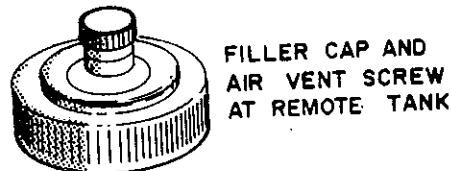

Figure 5. Remote fuel tank cap has screw type air vent.
- (3) Before starting, be sure that fuel tank has a sufficient amount of properly mixed fuel. Open the air vent screw on the filler cap at remote fuel tank. (See Figure 5).